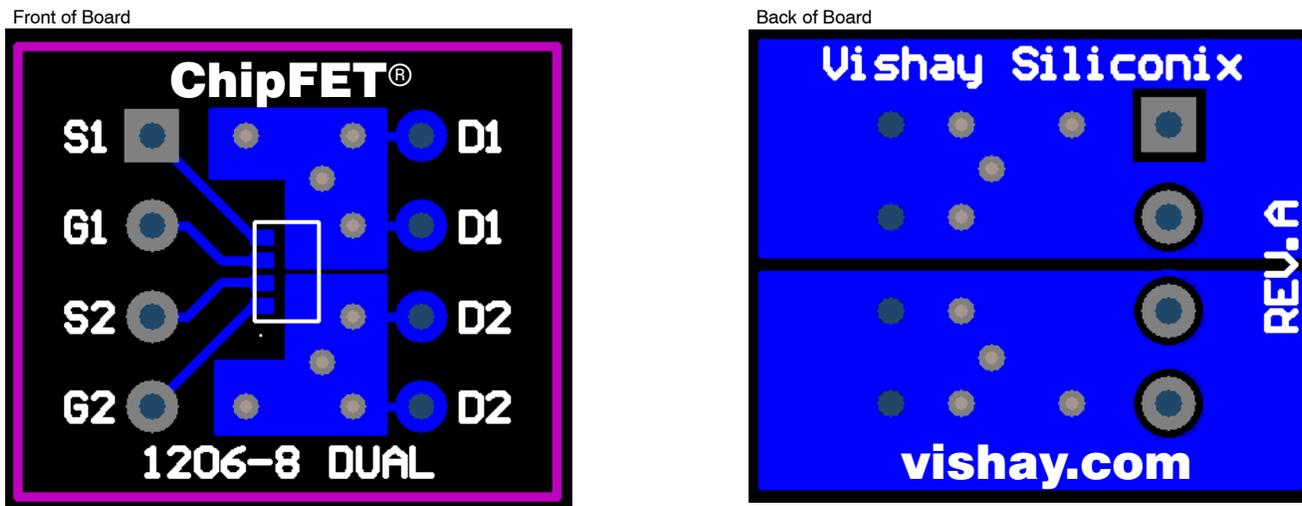

FIGURE 3.
The pad pattern with copper spreading shown in Figure 2 improves the thermal area of the drain connections (pins 5 and 6, pins 7 and 8) while remaining within the confines of the basic footprint. The drain copper area is 0.0019 sq. in. or 1.22 sq. mm. This will assist the power dissipation path away from the device (through the copper leadframe) and into the board and exterior chassis (if applicable) for the dual device. The addition of a further copper area and/or the addition of vias to other board layers will enhance the performance still further. An example of this method is implemented on the Vishay Siliconix Evaluation Board described in the next section (Figure 3).
2) The evaluation board with the pad pattern described on Figure 3.	128°C/W